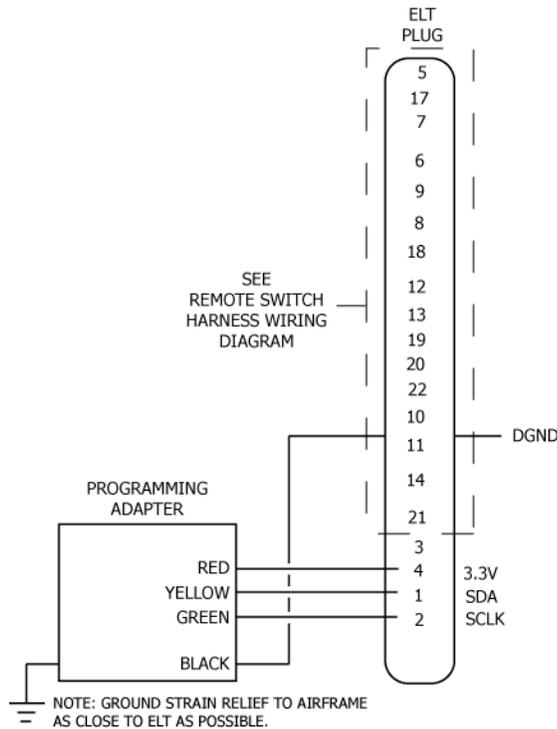

Figure 27 Programming Adapter Interface Wiring Diagram
- 2) If the PA is undergoing installation on an aircraft with an existing ELT and remote switch harness, perform the following procedure, otherwise proceed to Step (3):
- 3) Loop the PA wires back through the wire path such that they exit at the front of the PA. See Figure 27.
- 4) Terminate the contact sockets of the four PA wires in the remote switch harness ELT plug using insertion tool MS27495A22MS, or equivalent. Connect to the mating plug. See Figure 27.